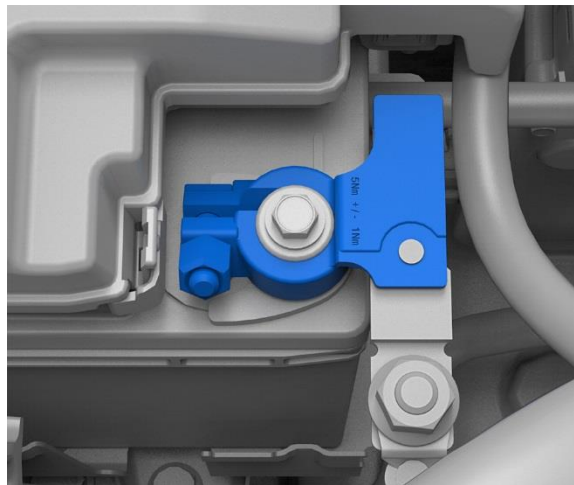

Figure 20. 12V battery negative terminal
- m. Disconnect the 12V battery negative terminal clamp (Figure 20).